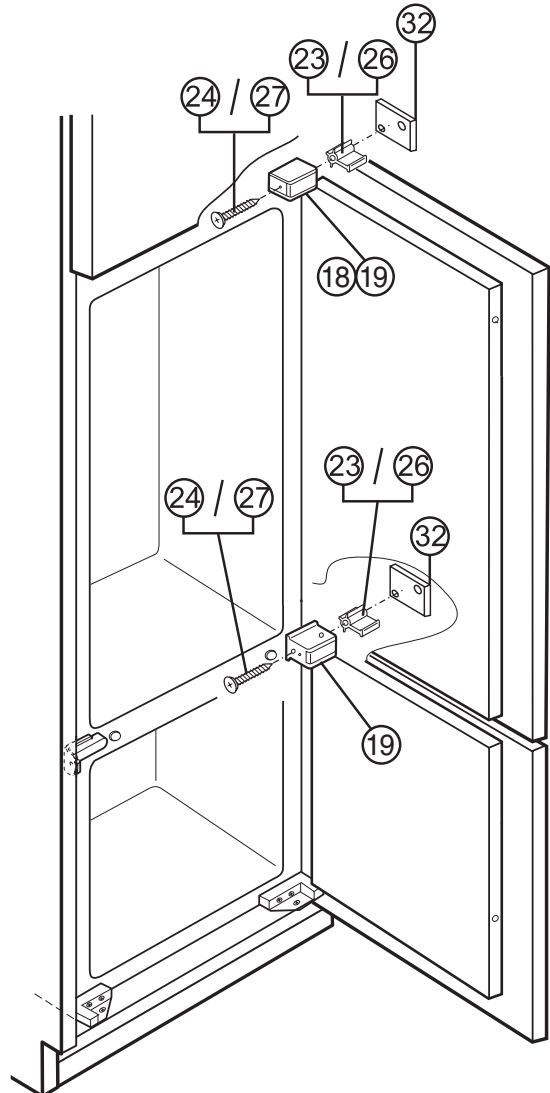

Figure 19
DO NOT install screw (Fig. 19, 24 / 27) or hinge spacer (Fig. 19, 23 / 26), at top appliance door hinge (Fig. 19, 18) if it interferes with kitchen cabinet door hinge (Fig. 19, 18).
- a) Place the appropriate hinge spacer (Fig. 19, 23 / 26) between the appliance door hinge (Fig. 19, 19) and the kitchen cabinet wall or cabinet spacer (Fig. 19, 32):
- For 3/4 in. (19 mm) thick cabinet walls – use small spacer (Fig. 19, 23).
- For 5/8 in. (16 mm) thick cabinet walls – use large spacer (Fig. 19, 26).
- b) Use the appropriate screws (Fig. 19, 24 / 27) according to the thickness of the kitchen cabinet walls:
- For 3/4 in. (19 mm) thick cabinet walls – use No. 5 x 75 mm screws (Fig. 19, 24).
- For 5/8 in. (16 mm) thick cabinet walls – use No. 5 x 80 mm screws (Fig. 19, 27).
- c) If you are using a cabinet spacer (Fig. 19, 32) make sure the screws go through the cabinet spacer.